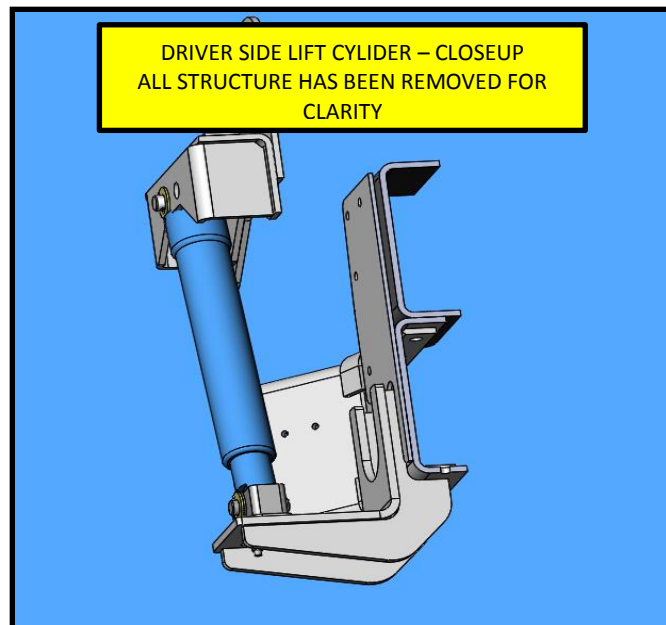

FIG. 3-2
5. Driver side lift cylinder viewed from underneath with all structure removed for clarity. Refer to FIG 3-2